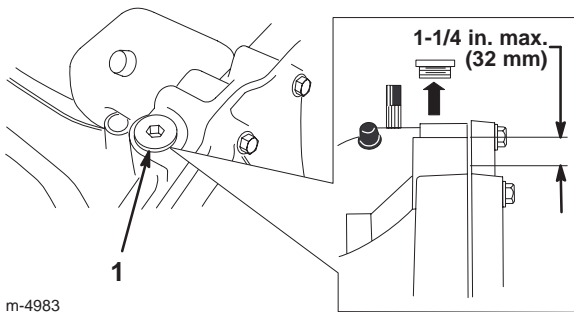

Figure 29
6. Clean around the fill plug (Fig. 29) so that dirt cannot fall into the reservoir if you need to add fluid.
7. Remove the fill plug and check the fluid level. The level should be a maximum of 1-1/4 in. (32 mm) below the top of the fill port (Fig. 29). Add fluid if necessary.